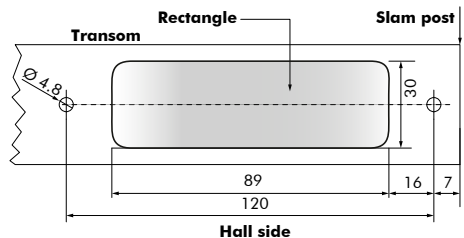

Figure 22: Template (Drilling and cutting out)
2. Drill two 4.8 mm (3/16 inch) diameter holes for the preassembled sensor into the transom with 120 mm distance from drilling hole to drilling hole (Figure 22).